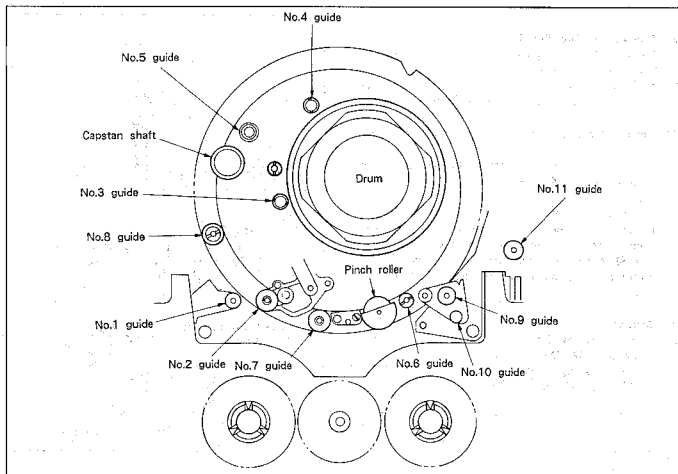

Fig. 7-4.
- 1) Place the cassette compartment assembly in EJECT state, and clean the tape path system (No.1 to No.11 guides, capstan shaft, pinch roller) with a chamois cloth soaked in cleaning fluid. (See Fig. 7-4.)